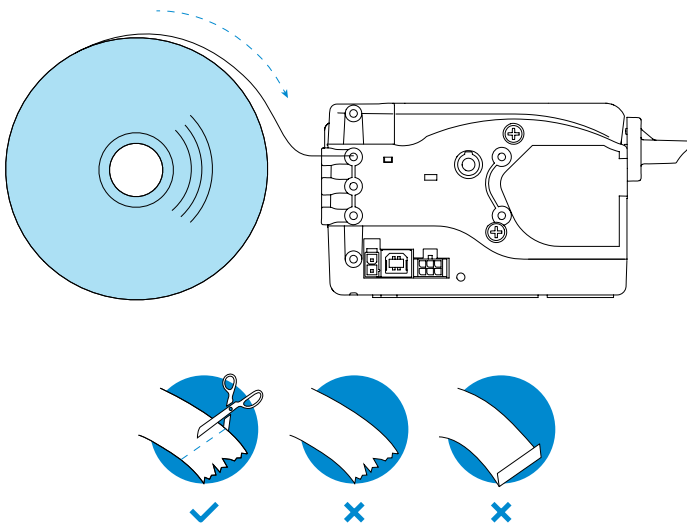

Fig. 8.7. Instruction for adding a roll of paper to the printer
- 3. Insert the end of the paper into the paper feeder as shown in Figure 8.7 and wait until the receipt tape starts to scroll automatically